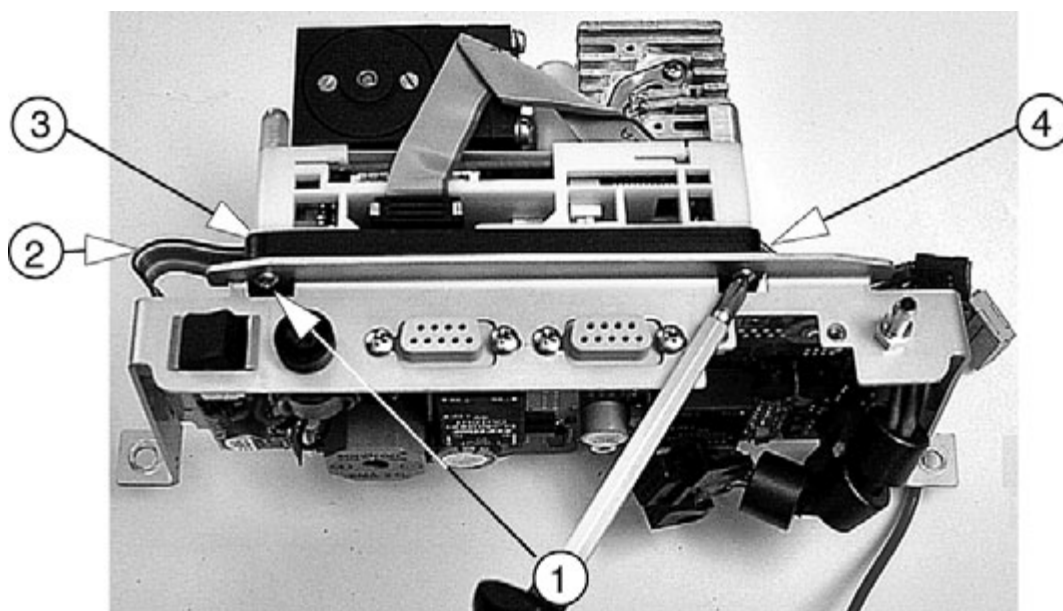

Fig. 6 ILCA module, fixing screws and cables
- Remove the two fixing screws (Fig. 6/1) from the VAMOS PCB. If necessary, remove the SpO₂ socket beforehand.
- The power supply cable (Fig. 6/3) is located next to the RS232 ribbon cable. Disconnect the power supply cable from the ILCA module.
- Disconnect the RS232 ribbon cable (Fig. 6/2) from the ILCA module.
- Disconnect the ribbon cable (Fig. 6/4) from the VAMOS PCB. If necessary, remove the SpO₂ PCB beforehand.